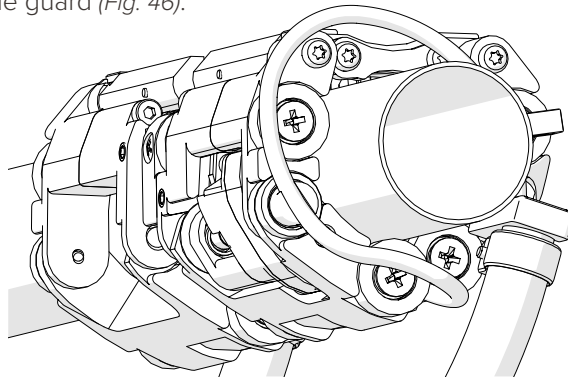

Fig. 48 - Small diameter scanning
5. Place the encoder cable in the clips along the side of the scanner (Fig. 48).